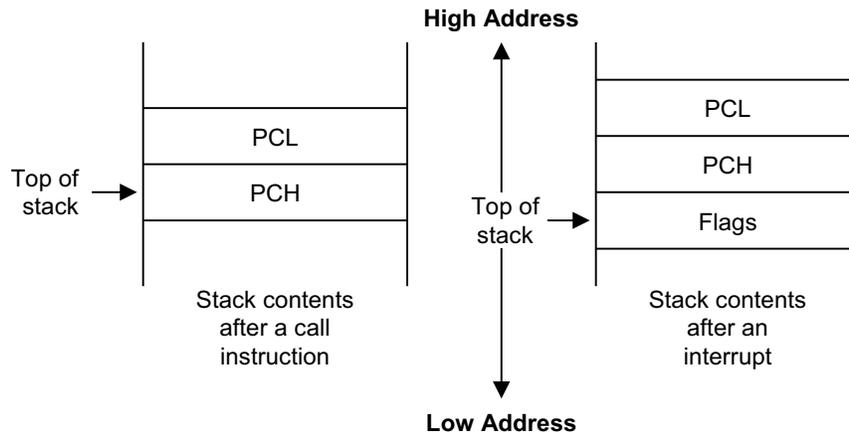

Figure 30. Stack Operations
Return addresses for procedure calls, interrupts, and data are stored on the stack. The contents of the PC are saved to stack by a CALL instruction and restored by the RET instruction. When an interrupt occurs, the contents of the PC and the Flags registers are pushed to the stack. The IRET instruction then pops these values back to their original locations. The stack address value is always decreased by one before a push operation and increased by one after a pop operation. The stack pointer (SP) always points to the stack frame stored on the top of the stack, as shown in Figure 30.